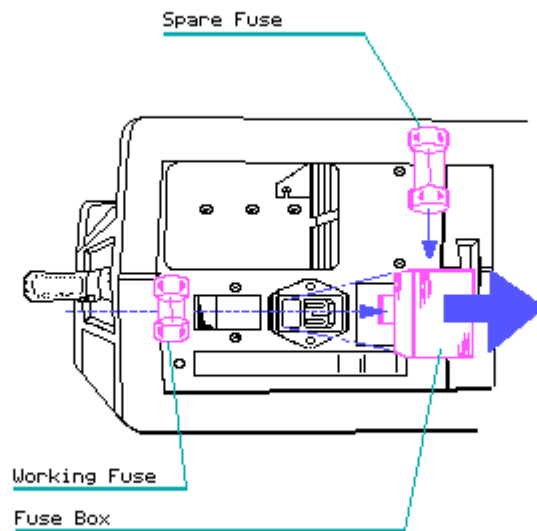

Figure 7.8-15. Locating the Spare Fuse
4. Once the fuse box is out, you will see a spare fuse in a holding area in the fuse box (Figure 7.8-15). Lift out the defective fuse, and replace it with the spare one.